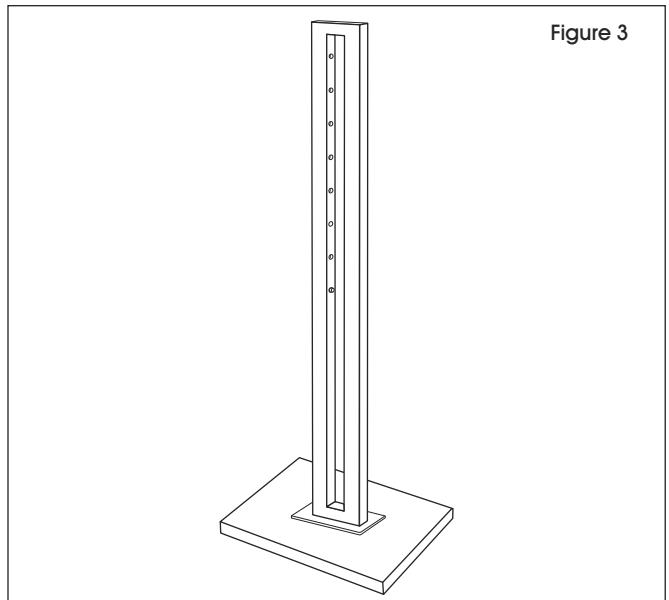

Figure 3
3. Stand the assembled pieces up with the base plate resting on the ground. (See Figure 3)